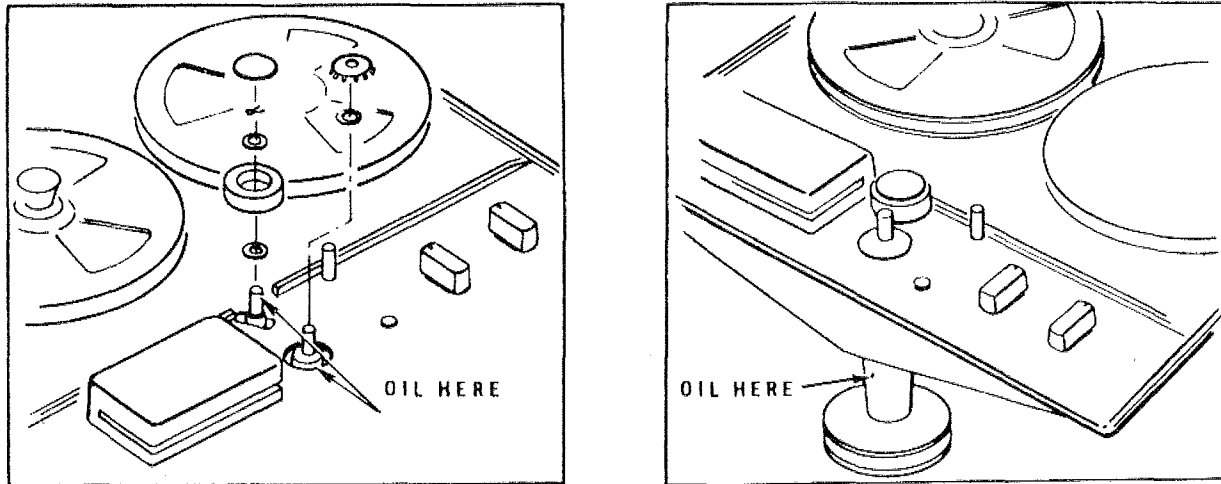

FIGURE 1, CAPSTAN AND IDLER LUBRICATION
- III. Lubrication: See Figure 1. Each six months or 1000 hours, whichever occurs first, use only Ampex Oil #3010825, Standard Oil Company Terresso #47, Socony-Mobil Oil Company Oil DTE medium, or Shell Oil Company Turbo #29. Other oils may contain additives that are harmful to the bearings.
6. Lubricate the rear capstan bearing through the oil hole shown in Figure 1. Use exactly 4 drops.